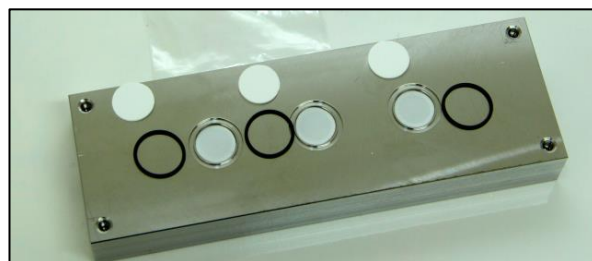

Fig. 3e: Insert flat filter
3. Insert the flat filter into the recesses (fig. 3e).